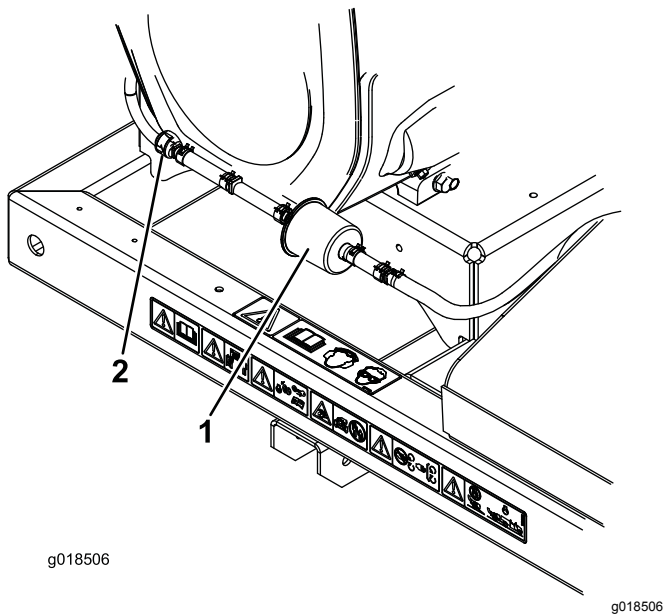

Figure 20
2. Move the spring-type hose clamps on both sides of the carbon canister purge-line filter away from the filter (Figure 20).
3. Remove and discard the carbon filter (Figure 20).
4. Install a new filter into the hose with the arrow on the filter pointing toward the check valve and secure it with the hose clamps (Figure 20).